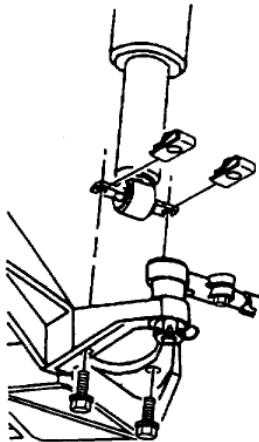

Figure 2
9. (FIG 2) Align the lower mounting within the control arm. Line up the cross pin holes are over the holes in control arm, then install the new provided bolts and nuts. The original clips do not need to be reused. The original bolts also were excessive long, only for production line installation requirements. Tighten to 15-18 ft-lbs (20-24 N-m)